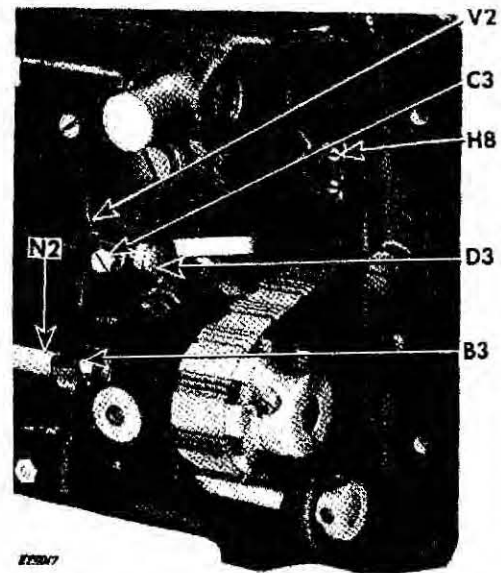

Fig. 44. Adjusting Stitch Regulator
The feed eccentric **B3**, **Fig. 44** is not adjustable for length of stitch, as it is positively set at the factory by location on a flat on the rotating hook driving shaft **N2**. See **Fig. 53**, page 39 for location of flats on shaft **N2**.
2. Loosen set screw **C3**, **Fig. 44**.
9. Binding in feed rock shaft connecting link **V2**, **Fig. 44**.
3. Loosen binding set screw **H8**, Fig. 44 which fastens to stitch regulating handle.
5. Loosen screw **C3**, Fig. 44 and remove eccentric stud **D3**.
3. Replace eccentric stud **D3** and securely tighten set screw **C3, Fig. 44**.
4. Insert stitch regulating handle into its recess and securely tighten screw **H8, Fig. 44** making sure that slotted opening **O8** of friction spring aligns with concave surface of regulator handle as shown in **Fig. 47**.